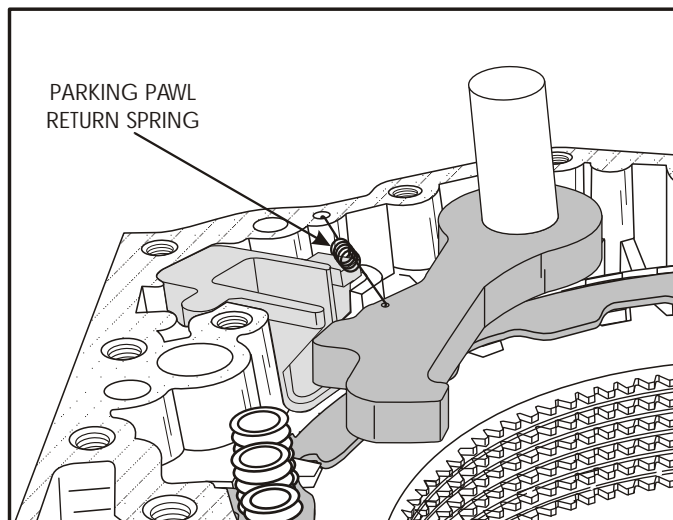

Figure 159
29. Install the parking pawl return spring into the hole in the case, and connect the other end of the spring to the parking pawl with a slight twisting motion (See Figure 159).